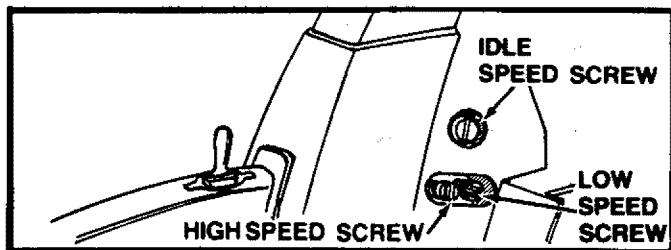

Figure 40
- Locate the three (3) carburetor adjusting screw openings to the right of the air filter cover. Figure 40.